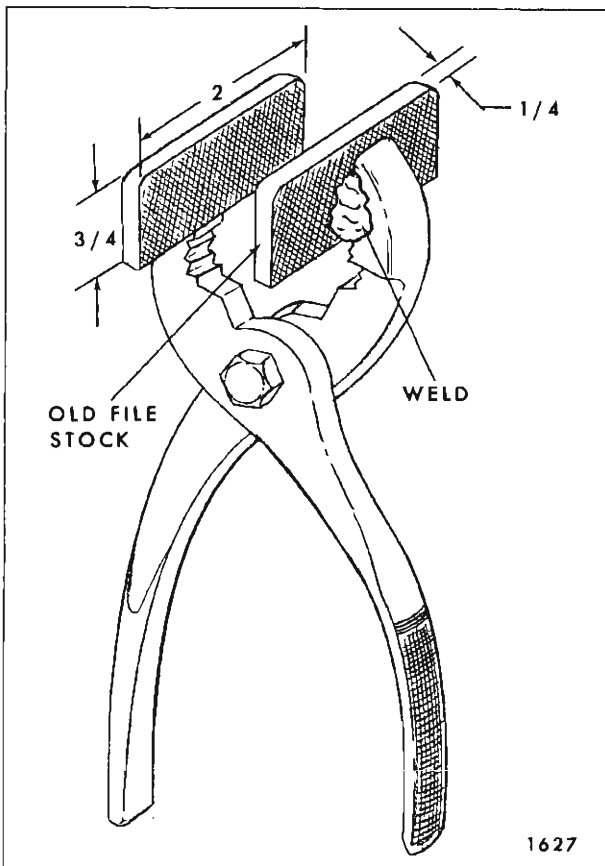

Fig. 12-1—Fabric Roof Cover Pliers
**NOTE:** Where new cover is installed at temperatures below 72°, fabricated pliers as shown in Figure 12-1 will aid in removing wrinkles.